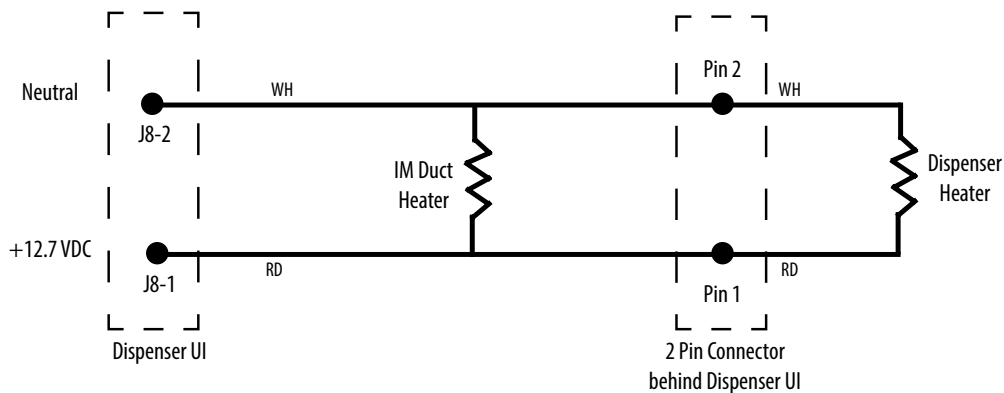

FIGURE 8: IM Duct & Dispenser Heater Diagram
- Disconnect the 2 Pin Connector (Figure 8).